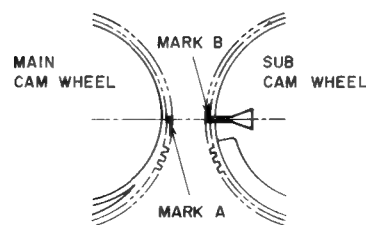

Fig. 6-3
- 2) Align marks (A) and (B) on MAIN CAM WHEEL and SUB CAM WHEEL and fix them on capstan holder as shown in Fig. 6-3.